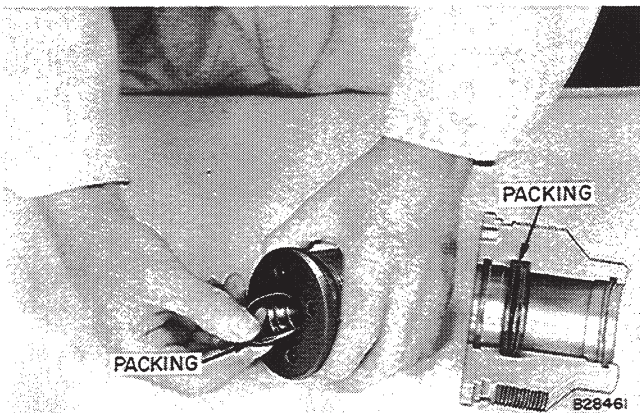

Figure 77 - Removing Packing Rings
REFERRING TO FIGURE 77: Using a screwdriver, remove the back-up ring and three (3) packing rings. The packing rings probably will be damaged when they are removed. Therefore, do not remove them unless new packing is to be installed.